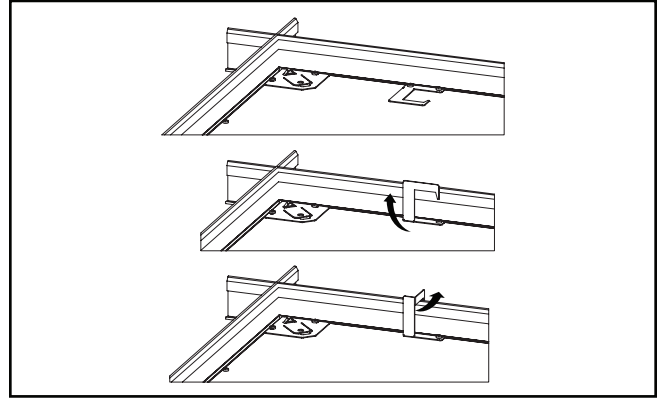

Figure 4.
6. Grid clips are provided for additional retention to ceiling system. Orient 4 tabs on back of fixture over T-GRID by bending tabs up 90 degrees perpendicular to back of fixture. Next bend tabs 90 degrees towards T-GRID frame (Fig. 4).